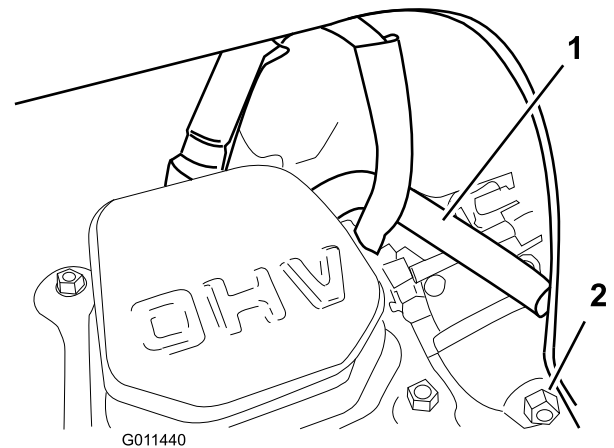

**Figure 33**
11. Set the gap on the plug to 0.030 inch (0.76 mm) (Figure 33).